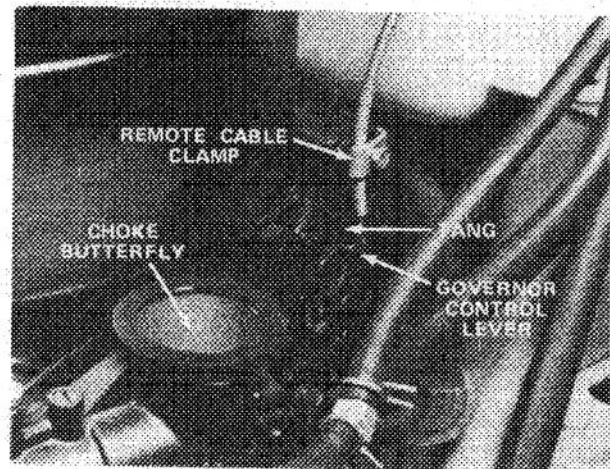

Figure 29
2. Move remote control lever to CHOKE position and check the position of the choke butterfly; it should be fully closed (Fig. 29).
3. Move remote control lever to FAST position. The butterfly should be in the fully open position (Fig. 29).
2. Check the relationship between the governor control lever and the tang on the governor control plate. The top edge of the lever should line up with the bottom edge of the tang (Fig. 29).
3. Loosen the remote cable clamp screw (Fig. 29) and move the control cable casing and wire until the governor lever is properly aligned with the tang.